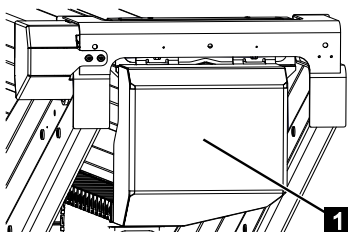

Fig. 260
13. Remonter le capot (Fig.260/1) correctement.